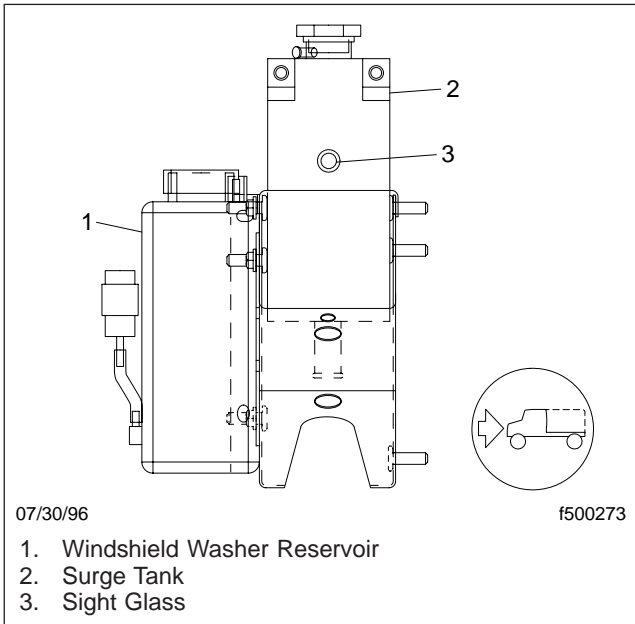

Fig. 8.1, Check the Surge Tank Fluid Level
Tilt the hood to access the reservoir (located next to the surge tank). Add washer fluid as needed. See Fig. 8.1.
6. Check the coolant level in the surge tank sight glass. See Fig. 8.1. Check the condition of the radiator fins and the charge air cooler.